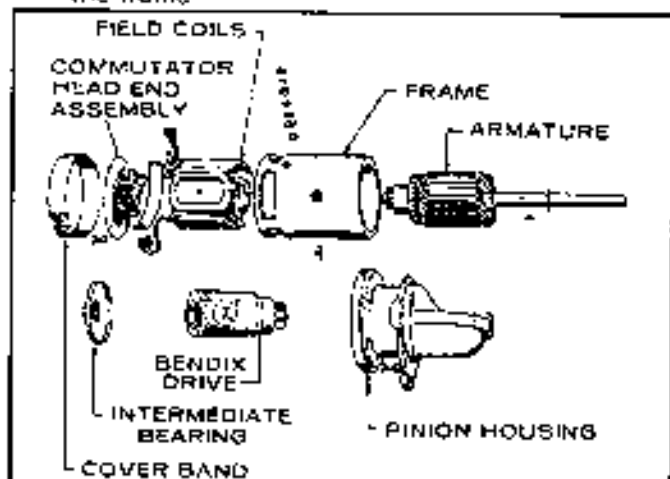

FIGURE 18-11. BENDIX DRIVE STARTER
- 5 On the bendix drive starters, the entire assembly mounts on the armature shaft (Figure 18-11). When disassembling the bendix starter, pay particular attention to the various parts and their positioning in the starter assembly. If the gears of the bendix pinion are damaged, replace the entire pinion. Inspect the screw shaft for rust and burrs.